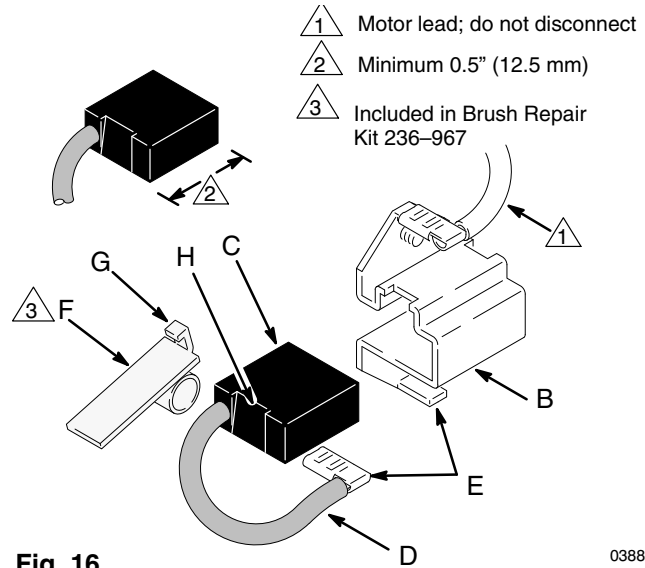

Fig. 16 03881
3. Push in the spring clip (F) and release its hook (G) from the brush holder (B). Pull out the spring clip. See Fig 16.
4. Slide off the brush lead terminal (E) off the blade connector. Remove the old brush (C). See Fig 16.
7. Place a new brush (C) in the holder (B) so the ramp (H) faces the spring. See Fig. 16.